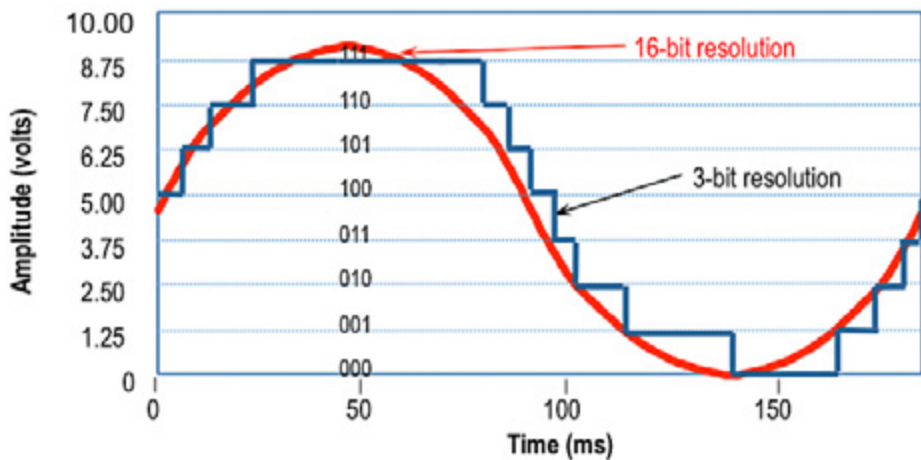

Figure 2.
The smallest detectable change in the signal determines the resolution that is required of your DAQ device. Resolution refers to the number of binary levels an ADC can use to represent a signal. To illustrate this point, imagine how a sine wave would be represented if it were passed through an ADC with different resolutions. Figure 2 compares a 3-bit ADC and a 16-bit ADC. A 3-bit ADC can represent eight (23) discrete voltage levels. A 16-bit ADC can represent 65,536 (216) discrete voltage levels. The representation of the sine wave with a 3-bit resolution looks more like a step function than a sine wave where the 16-bit ADC provides a clean-looking sine wave.